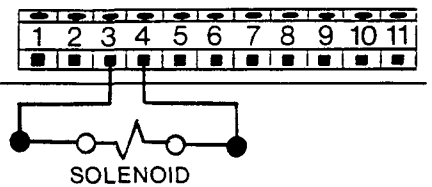

FIGURE 3
- C. Connect leads from 120VAC lubrication system solenoid to terminals 3 and 4.* (See Figure 3)